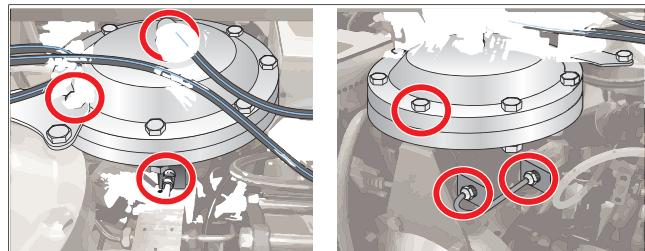

Figure 1. Isolation Valve in Ruska 7615
4. Remove the fittings and isolation valve that are highlighted in Figure 1.
8. Install the Isolation Valve back into the Ruska 7615. (See Figure 1).